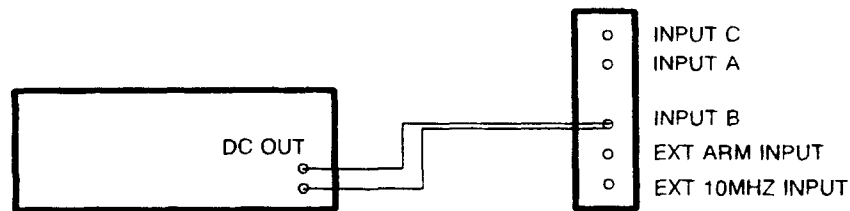

Figure 5-11. Input B Trigger Level Test Configuration
6. Connect the DC standard to input B of the counter as shown in Figure 5-11. Single shot autotrigger the counter (command code **S31**). Recall the VX4223 stored trigger level (command code **RLB**) and verify that it is $5.00\text{ V} \pm 80\text{ mV}$.